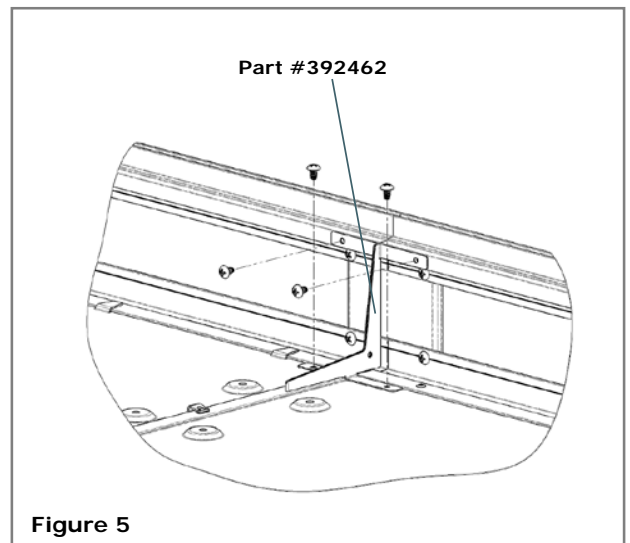

Figure 5
4. Screw bracket (part #392462) into place. **See Figure 5.**